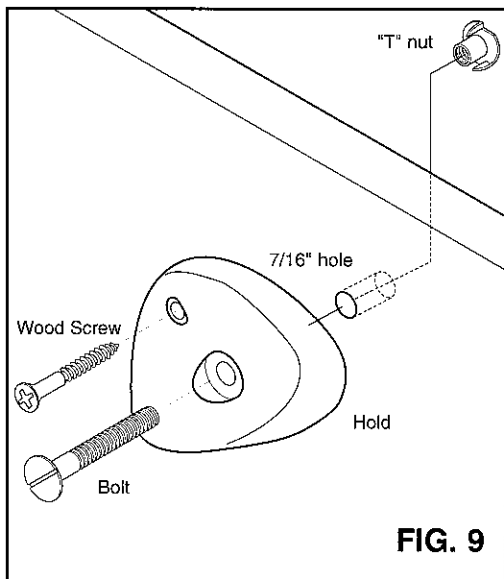

FIG. 9
5. Insert a "T" nut into each hole on the **BACK** of the wall (see Fig. 9). Using a hammer, pound the nut flush with the wall.
6. Insert a bolt through the large hole of each hold and through a hole on the front of the wall (Fig. 9).
9. Insert a wood screw in the smaller hole of the hold and secure to the wall (Fig. 9).